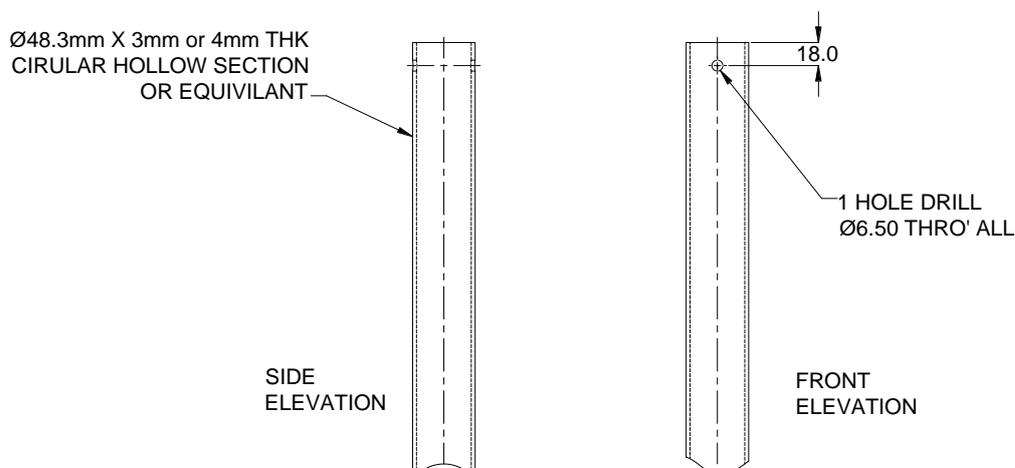
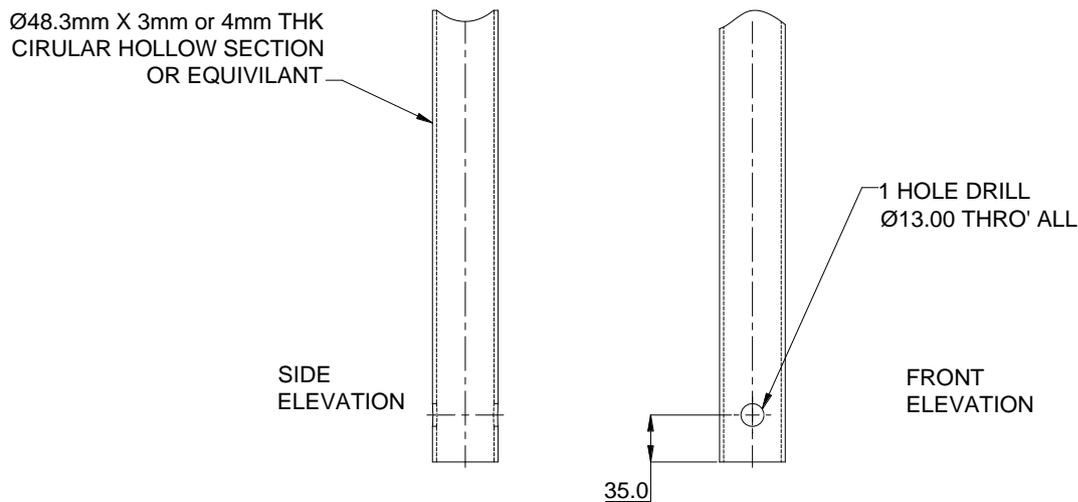

Fig 5: Mounting Hole for wind turbine to be drilled at the top of the main tower section
Fig 6: Tower pivot hole to be drilled at the bottom end of the main tower section
7. **Drill the Main Tower Section** - The 48.3mm diameter steel tube requires a 6.5mm hole to be drilled in the top end to allow attachment of the wind turbine and a 13mm hole to be drilled at the lower end to act as the pivot point for the tower. Fig 5 shows the position of the 6.5mm hole and fig 6 shows the position of the 13mm hole. Using a power drill and suitable drill bit, drill both of these holes in the 48.3mm diameter tube. It is recommended that a pilot hole is drilled in both cases.